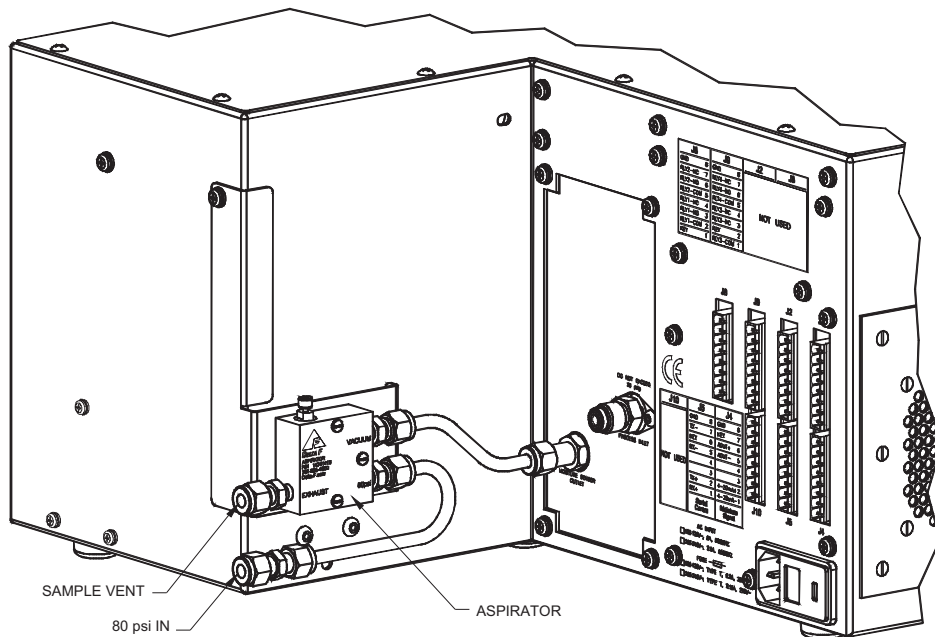
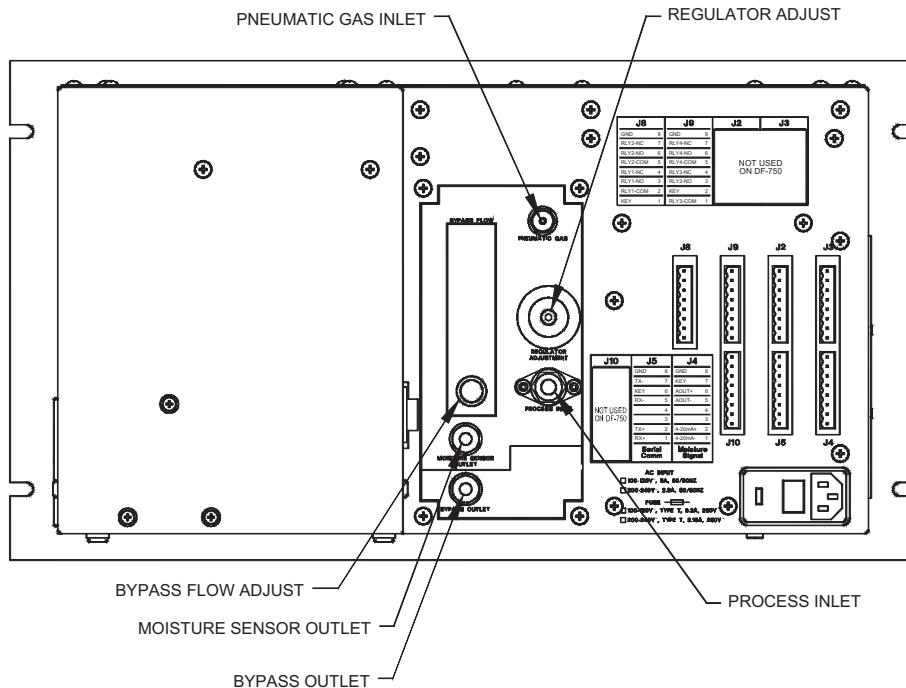
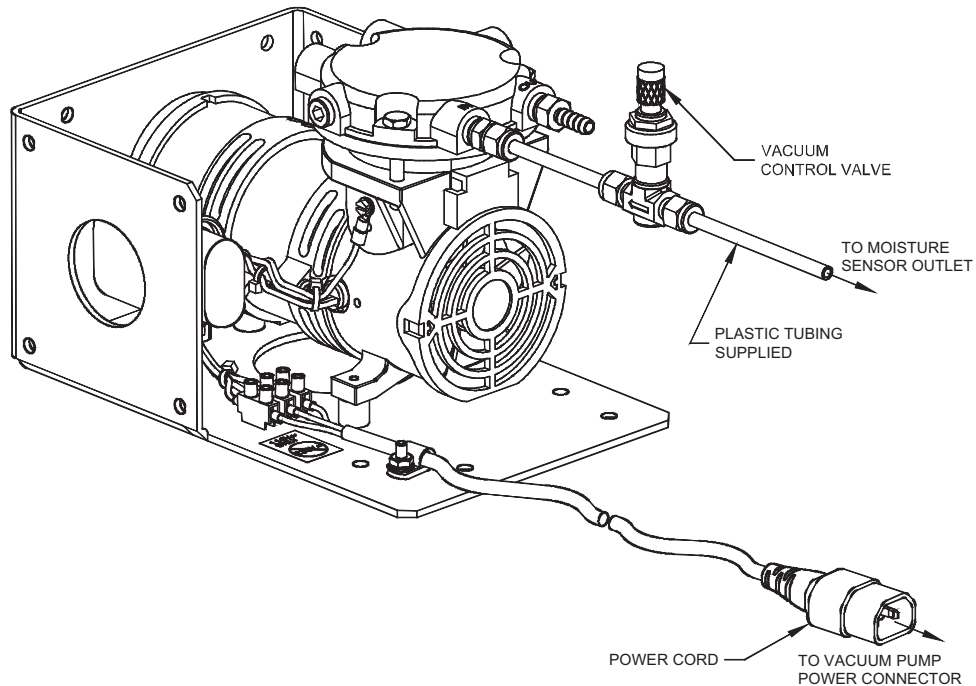

Figure 3: Aspirator Installation
Figure 4: Rear Panel Gas Connections and Controls
Figure 8: Vacuum Pump Assembly
The standard vacuum source provided with the DF-750 analyzer is a factory installed aspirator as shown in Figure 3. Aspirator installation with the optional gas panel is identical.
The pneumatic gas connection is a 1/8 inch compression fitting as shown in Figure 4 and requires 70 – 125 psig air or N2 pressure. For ease of installation, the pneumatic feed line can be connected directly to the 1/4 inch aspirator source by way of a 1/8 inch adapter.
Sample gas is connected to the analyzer via a 1/4 inch male swivel VCR fitting labeled Process Inlet at the rear of the instrument as shown in Figure 4. Sample pressure of 30 – 150 psig is required and is regulated internally.
The sample gas outlet connection is a 1/4 inch compression fitting labeled Moisture Sensor Outlet as shown in Figure 4. A 1/4 inch stainless tube is connected from the analyzer sample outlet to the Aspirator assembly. See Figure 3.
4. Open the flowmeter bypass valve on the rear of the analyzer and flow in the bypass loop will be indicated on the flowmeter. Adjust the flowmeter bypass valve to 0.5 slpm. See Figure 4.
The sample gas outlet connection is a ¼ inch compression fitting labeled Moisture Sensor Outlet as shown in Figure 4. Use the polyethylene tubing provided with the analyzer to connect between the outlet fitting and the ¼ inch fittings on the needle control valve and vacuum pump (included separately). See Figure 8. **Open the needle control valve completely.**